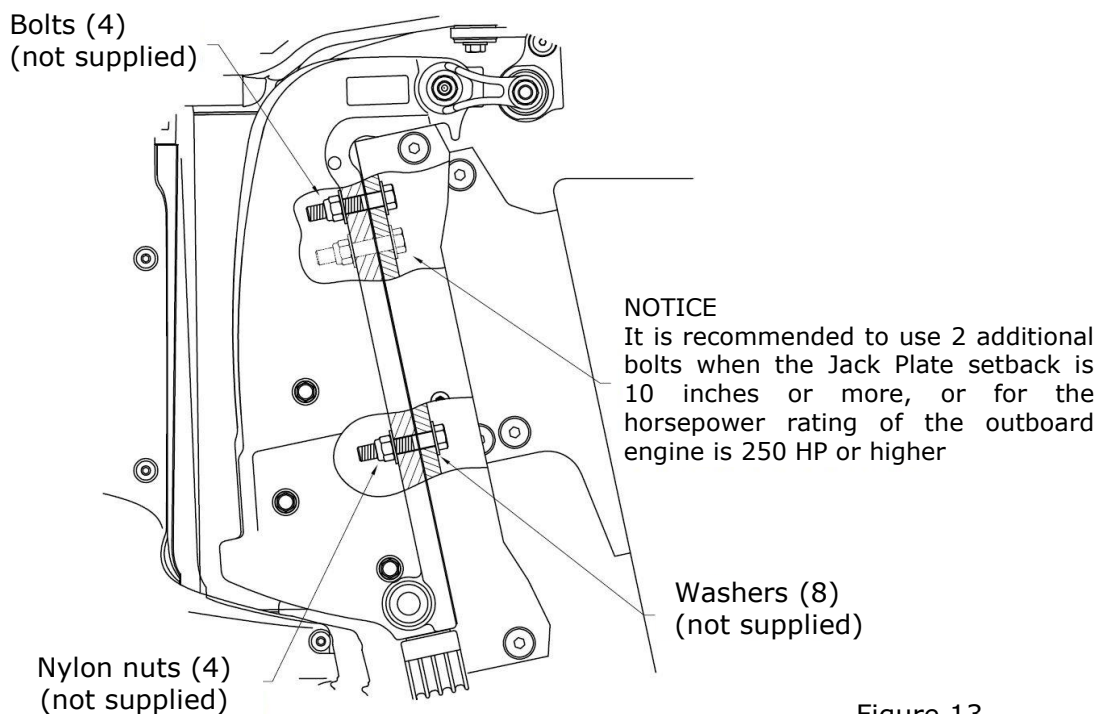

Figure 13.
- It is recommended to use 2 additional bolts when the Jack Plate setback is 10 inches or more, or the horsepower rating of outboard engine is 250 HP or higher (see Figure 13).
- Consider using additional bolts as recommended by the engine manufacturer (see Figure 13).